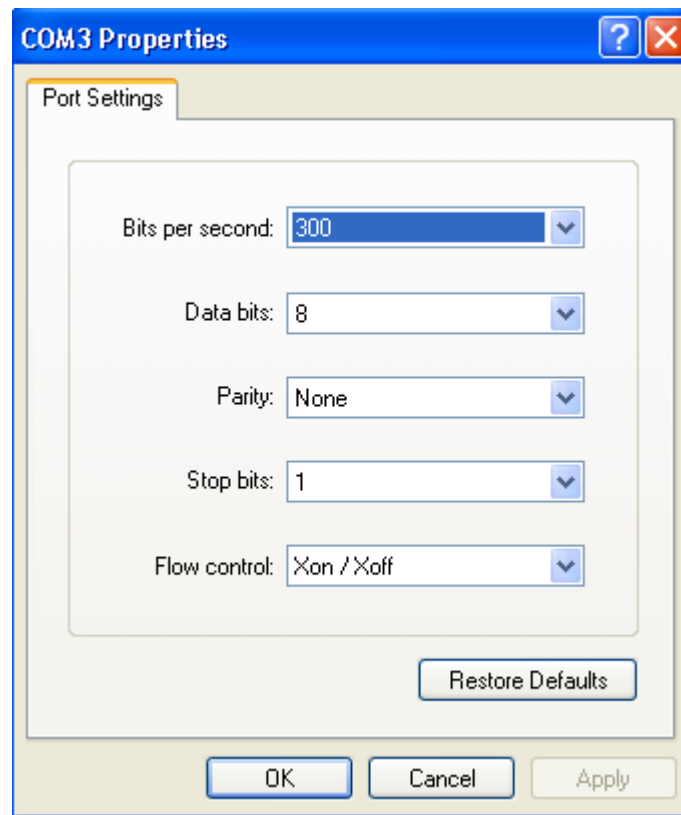

Figure 3-1: Port Speed and Handshake Setup
- Open a Windows' Hyperterminal session at 2400 or 300 bps (depending on jumper settings – see the DBUM), 8N1, one stop bit with XON/XOFF flow control enabled. The setup dialog box is shown in *Figure 3-1: Port Speed and Handshake Setup*.
Note: HyperTerminal can be found by selecting Programs → Accessories → Communications from the Windows® start menu. The connection parameters are configured by selecting File → Properties and then by pressing the Configure button. Port speed and flow control are configured under the General tab, bit settings are configured by pressing the Configure button (*Figure 3-1: Port Speed and Handshake Setup*) as shown below.